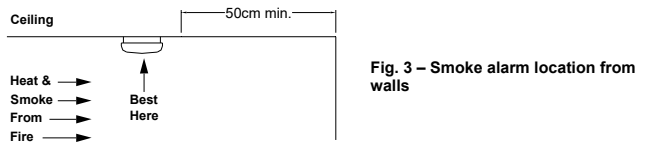

Fig. 3 – Smoke alarm location from walls
Install smoke alarms as close to the centre of the ceiling as possible, away from light fittings and air-conditioning ducts. If this is not practical, mount the smoke alarm on the ceiling, no closer than 50 cm from any wall or corner (see Fig. 3).
- In dead air spaces, which are often at the top of a peaked roof or in apex of ceilings and walls. Dead air may prevent smoke from reaching a smoke alarm. See Fig. 3 for the recommended location.